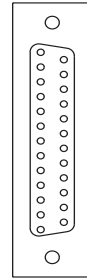

Figure 7
*Note: The RS232 interface is a 25-pin serial cable connector ( in Figure 7) is located behind the flip-up door just below the Program Protect key switch. This connection is also used for DNC (Direct Numerical Control) program operations when the program is too large for the controller memory and is executed directly from a remote Personal Computer (PC).*